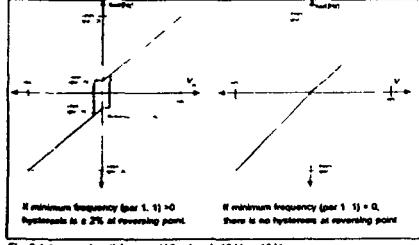

Fig. 5.4-1 Joystick control Vm signal -10 V...+10 V
- Note: When joystick control is used, the direction control is generated from the joystick reference signal. See figure 5.4-1.